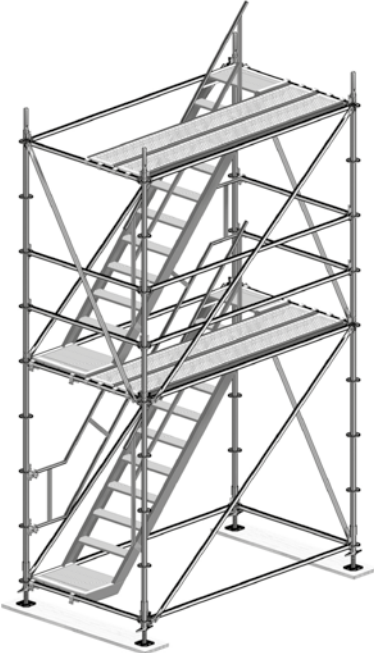

Fig. 13.1
23. Repeat steps 7 to 22 until the desired stair tower height has been reached (Figures 13.1 to 13.4).